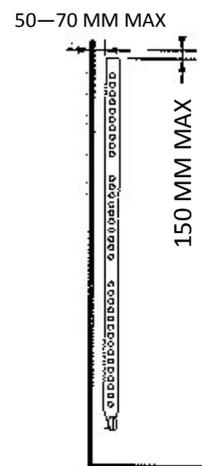

FIG. 6
- Immediately below or in front of a power socket or a junction box (Fig.6)
Never cover the control device in any way. (Fig. 6)
- Immediately below or in front of a power socket or a junction box (Fig. 6)